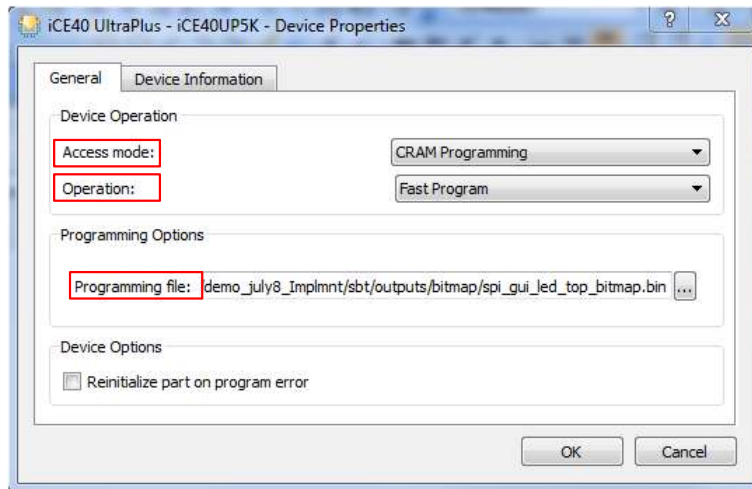

Figure 8.4. Device Property Settings for Programming iCE40 UltraPlus
2. Apply the settings in the Device Properties dialog as shown in Figure 8.4.